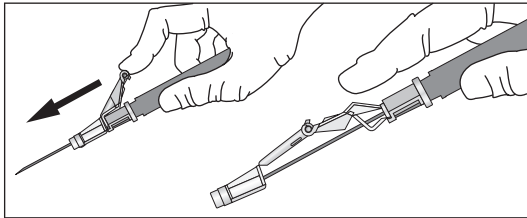

Figure 16
- Immediately activate needle protection device upon withdrawal from patient. For greatest safety, use a one-handed technique and activate away from self and others (refer to Figure 16).